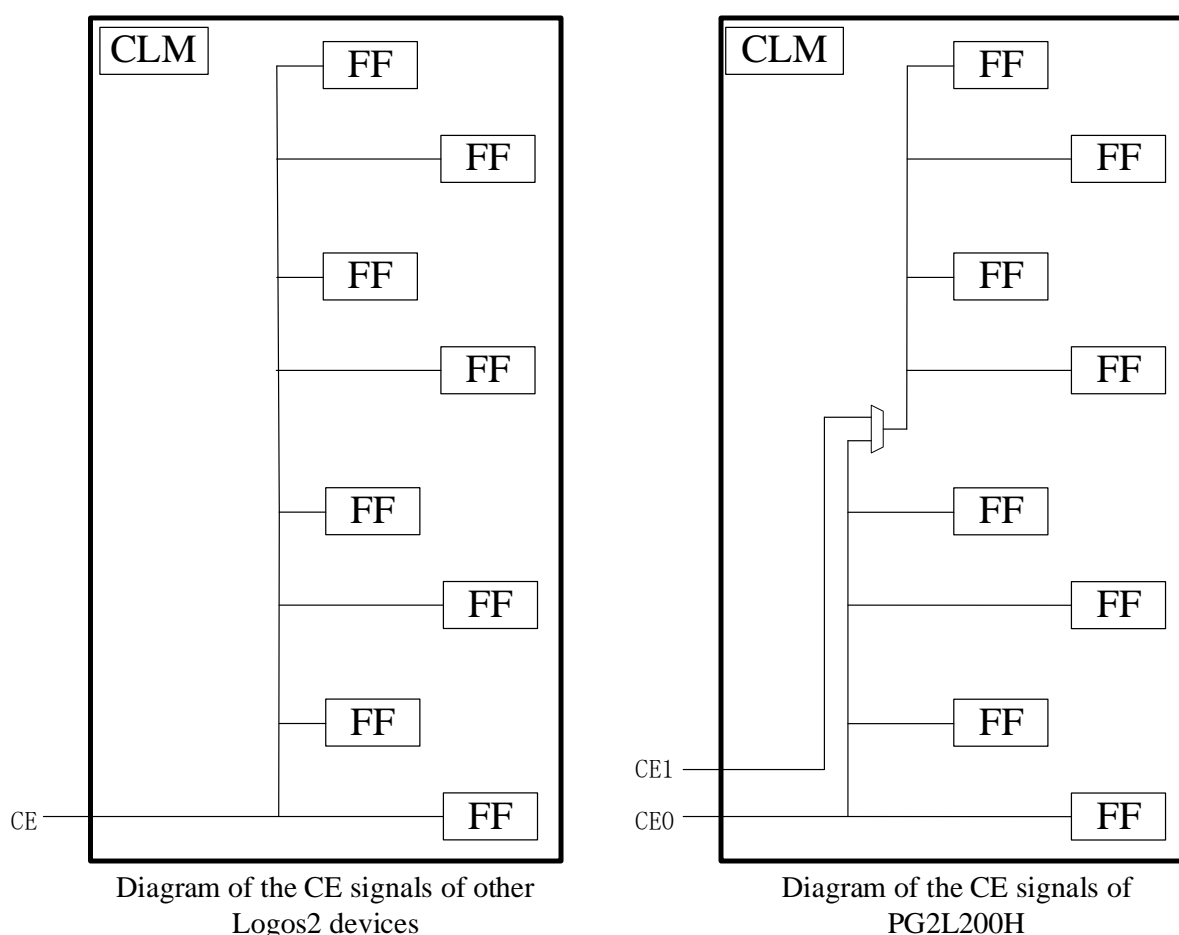

Figure 2-17 Diagram of the Differences Between the CE Signals of PG2L200H and Other Devices in the Logos2 Family
Notably, the CLM structure of PG2L200H differs from other devices in the Logos2 family. The CLM of PG2L200H has two clock enable (CE) ports (namely CE0 and CE1), each controlling four registers. Additionally, a 2-to-1 MUX is added. When the CE signals for the 8 registers are the same, signals can be input from CE0 and delivered to the 8 registers via the added MUX. The differences between the CE signals of PG2L200H and other devices in the Logos2 family are illustrated in Figure 2-17.